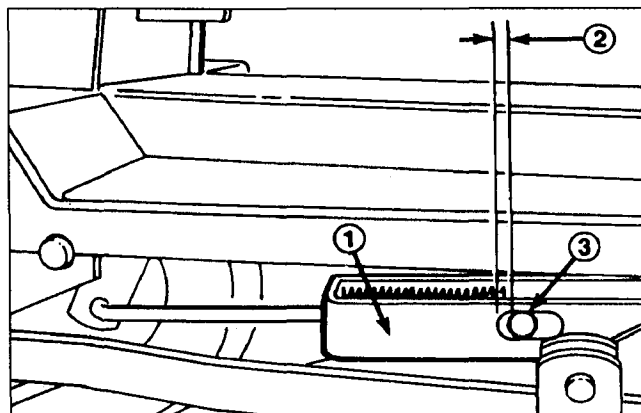

Figure 28
3. Rotate adjustment rod until there is 0.060 inch (1.5 mm) or less between end of slot in engagement bracket and outer diameter of pin (Fig. 28).